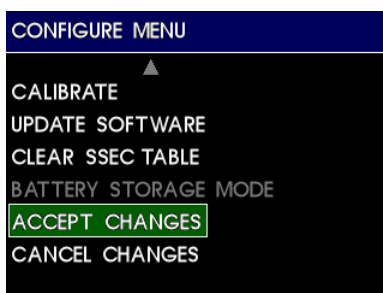

Figure 4.58
6. Be sure to select ACCEPT CHANGES in the Configuration Menu after the calibration procedure in order to store the calibration results to the MD302. (Figure 4.58)